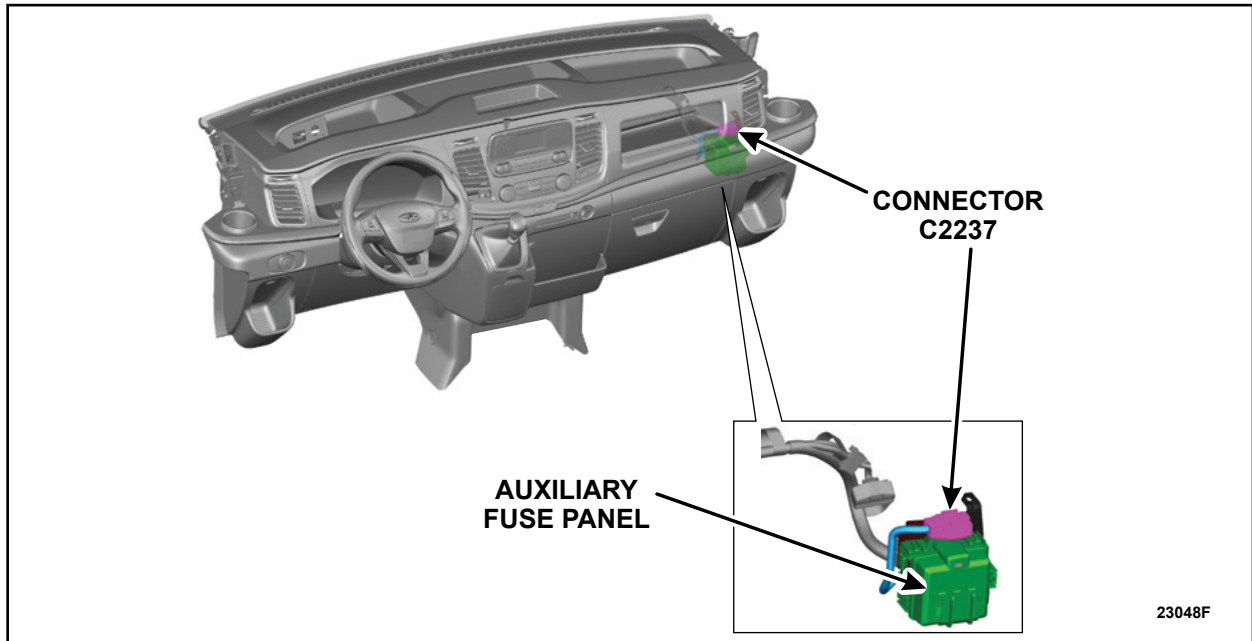

FIGURE 25
28. Locate connector C2237 as shown in Figure 25.